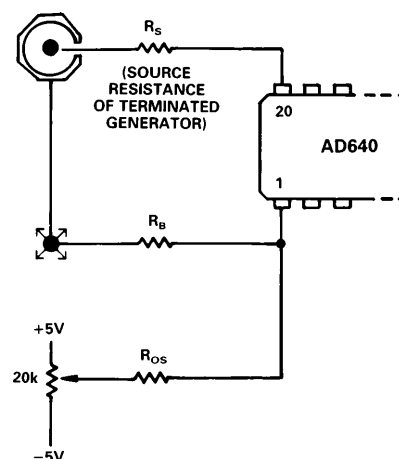

Figure 25. Optional Input Offset Voltage Nulling Circuit; See Text for Component Values
In most applications there will be no need to use any offset adjustment. However, a general offset trimming circuit is shown in Figure 25.  $R_S$  is the source resistance of the signal. *Note: 50  $\Omega$  rf sources may include a blocking capacitor and have no dc path to ground, or may be transformer coupled and have a near zero resistance to ground.* Determine whether the source resistance is zero, 25  $\Omega$  or 50  $\Omega$  (with the generator terminated in 50  $\Omega$ ) to find the correct value of bias compensating resistor,  $R_B$ , which should optimally be equal to  $R_S$ , unless  $R_S = 0$ , in which case use  $R_B = 5$   $\Omega$ . The value of  $R_{OS}$  should be set to  $20,000R_B$  to provide a  $\pm 250$   $\mu\text{V}$  trim range. To null the offset, set the source voltage to zero and use a DVM to observe the logarithmic output voltage. Recall that the LOG OUT current of the the AD640 exhibits an *absolute value response* to the input voltage, so the offset potentiometer is adjusted to the point where the logarithmic output "turns around" (reaches a local maximum or minimum).
R4 is identical to R2, and in shunt with R3 (270  $\Omega$  thin film) forms a 27  $\Omega$  resistor with the same TC as the output resistance of the attenuator. By connecting Pin 1 to ATN LOW (Pin 2) this resistance minimizes the offset caused by bias currents. The offset nulling scheme shown in Figure 25 may still be used, with the external resistor  $R_B$  omitted and  $R_{OS} = 500\text{ k}\Omega$ . Offset stability is improved because the compensating voltage introduced at Pin 20 is now PTAT. Drifts of under 1  $\mu\text{V}/^\circ\text{C}$  (referred to Pins 1 and 20) can be maintained using the attenuator.
Cascaded AD640s can be used in dc applications, but input offset voltage will limit the dynamic range. The dc intercept is 6  $\mu$ V. *The offset should not be confused with the intercept*, which is found by *extrapolating* the transfer function from its central “log linear” region. This can be understood by referring to Equation (1) and noting that an input offset is simply additive to the value of  $V_{IN}$  in the numerator of the logarithmic argument; it does not affect the denominator (or intercept)  $V_X$ . In dc coupled applications of wide dynamic range, special precautions must be taken to null the input offset and minimize drift due to input bias offset. It is recommended that the input attenuator be used, providing a practical input range of -74 dBV ( $\pm 200$   $\mu$ V dc) to +6 dBV ( $\pm 2$  V dc) when nulled using the adjustment circuit shown in Figure 25.